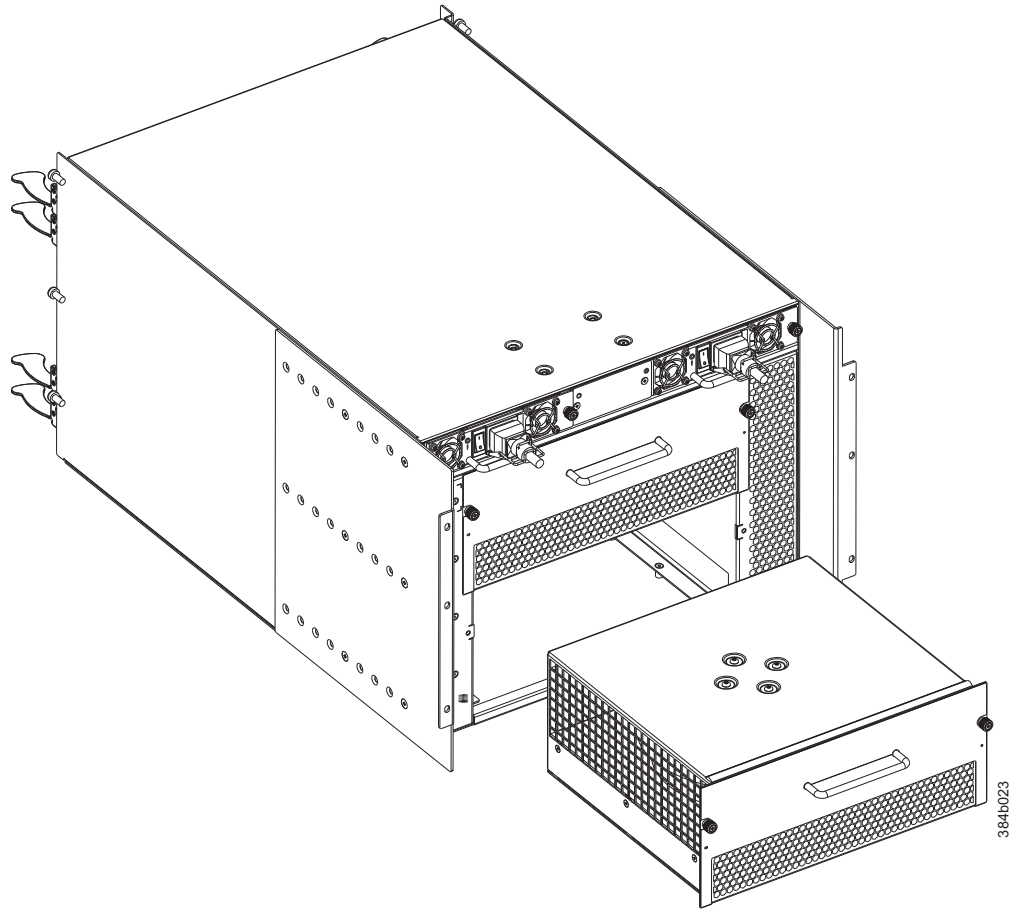

Figure 35. Blower assembly removal and replacement
3. Grasp the handle and pull, sliding the blower assembly from the chassis and supporting the blower assembly from beneath as you remove it (see Figure 35 on page 83).